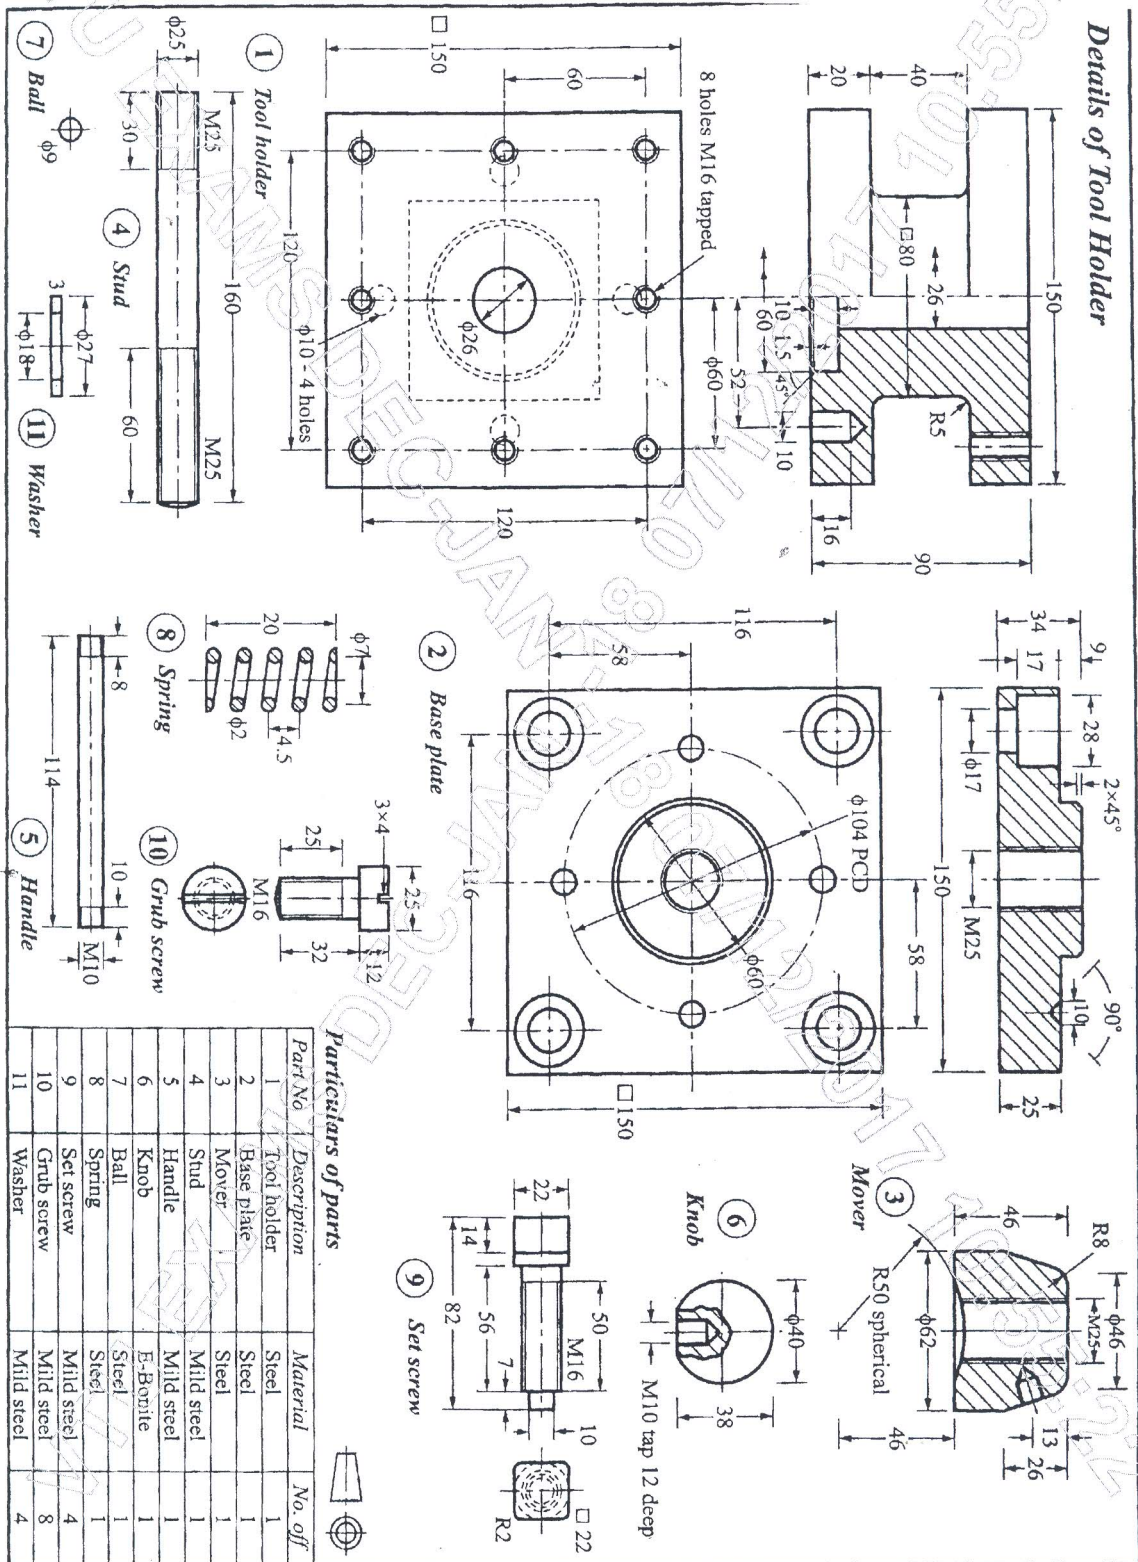

Figure. 1. SQUARE TOOL POST OF A LATHE
- Q.No.5** Details of SQUARE TOOL POST of a Lathe is shown in following Figure 1. Assemble the parts and draw the following views. **(50 Marks)**